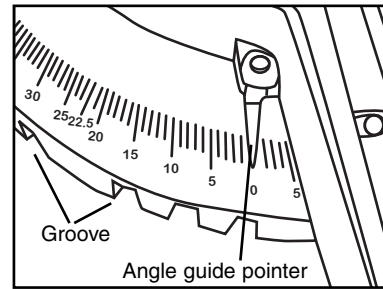

Fig. 5
- If the pointer is not set to 0° loosen the screw and turn the pointer until it is (Fig 5).